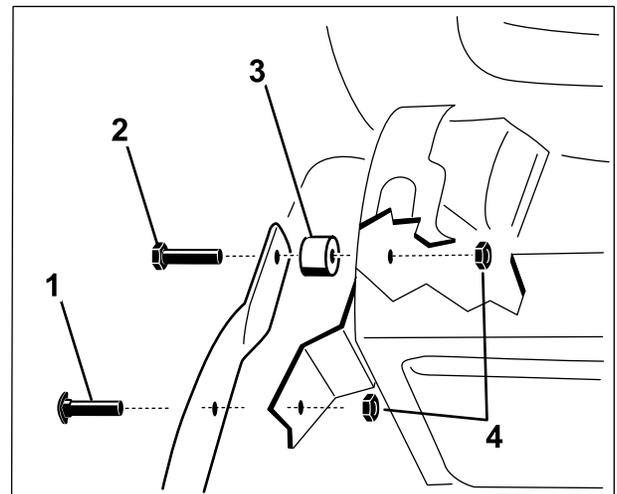

Figure 4
2. Attach the handle to the mower housing (Figure 4) using the 4 bolts, 4 locknuts, and 2 spacers in the loose parts bag.